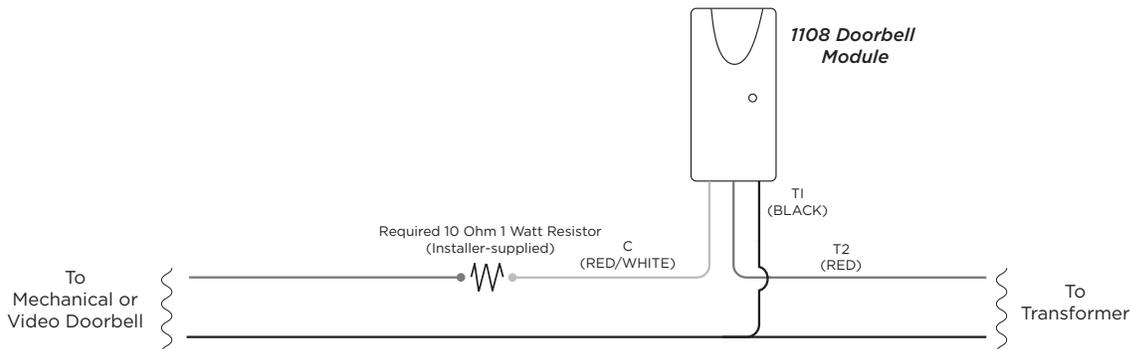

Figure 4: 1108 Wiring without Chime
- For wiring with an installer supplied 10 Ohm 1 Watt resistor instead of a chime, refer to Figure 4.